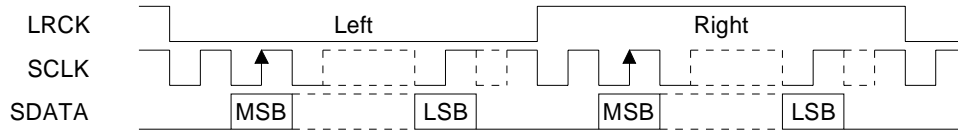

Figure 24. I2S Format
**I2S:** Figure 24 shows the I2S format. For I2S, data is presented most significant bit first, one SCLK delay after the transition of LRCLK and is valid on the rising edge of SCLK. For the I2S format, the left subframe is presented when LRCLK is low and the right subframe is presented when LRCLK is high. SCLK is required to run at a frequency of 48Fs or greater on the input ports.